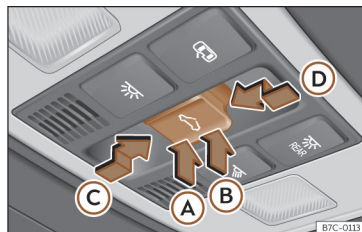

Fig. 84 On the interior roof lining: sunroof button.
The  button  Fig. 84 has two levels. The first level switches the sunroof to the tilted position, opening or closing it fully or partially.
the <> button >>> **Fig. 84** to the second level in the direction of arrow >>> **Fig. 84** ④ until the sunroof closes completely.